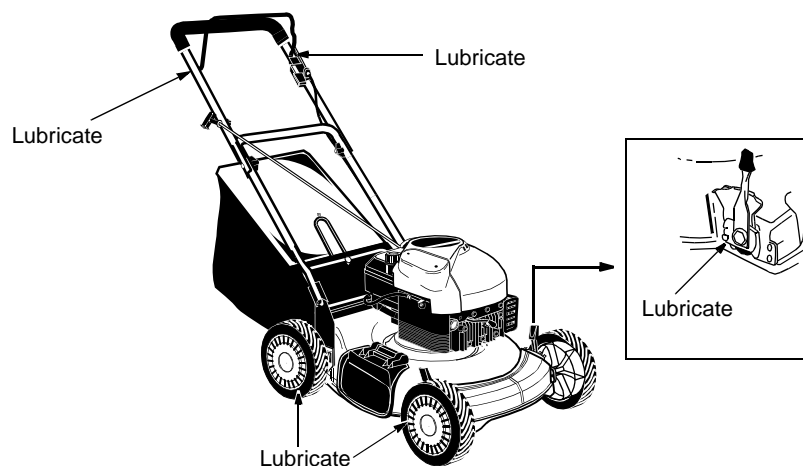

FIGURE 8
For complete lubrication chart, see Figure 8.
- Lubricate mower following the lubrication chart in Figure 8 on page 11.